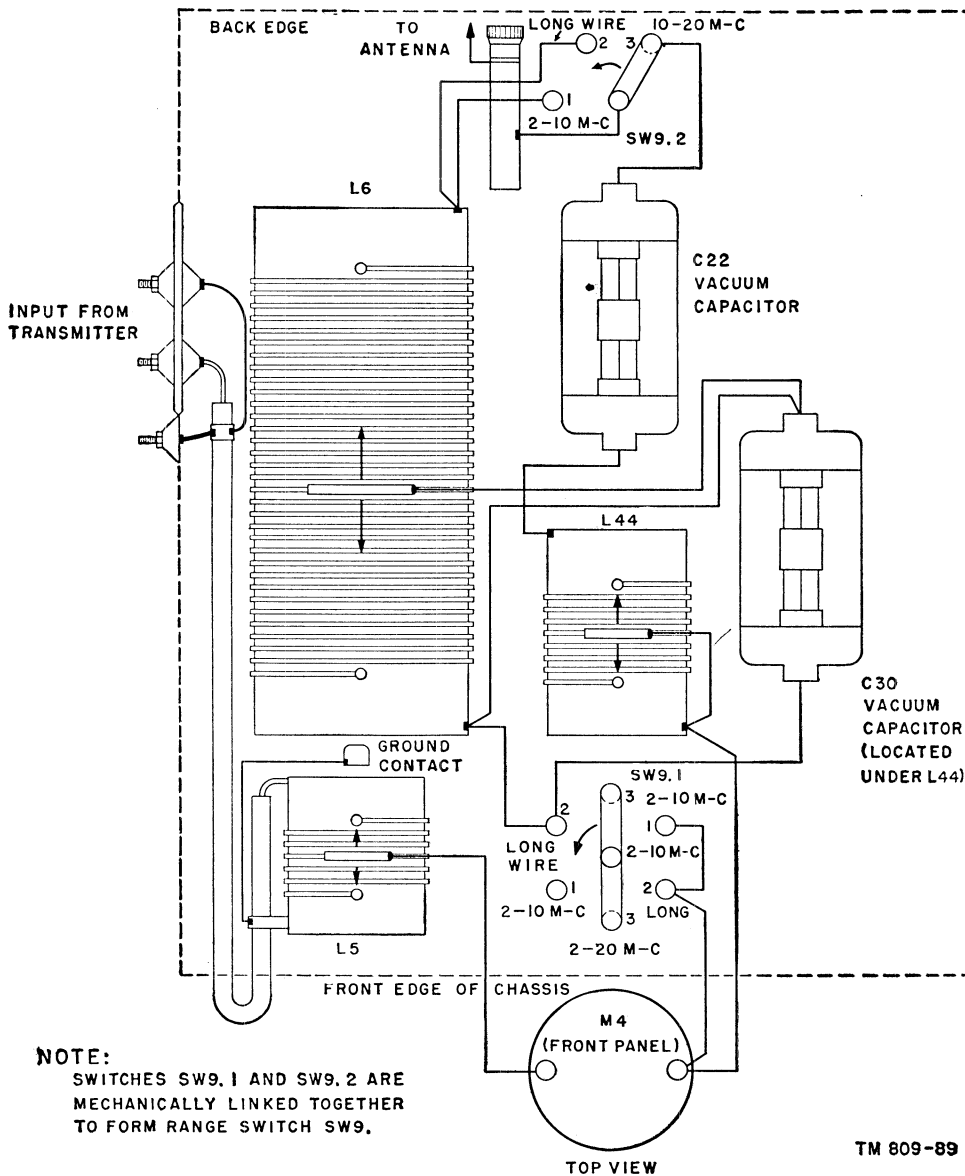

Figure 86. Antenna Tuning Unit BC-939-B, practical wiring diagram.
- (1) If the 1/4-inch diameter metal rod has been removed from the holes through the cams, replace the rod. This positions the cams and the rack at their highest position.
- (2) Reconnect the three wires in the cable harness to the three feedthrough terminals on the bracket at the back of the oscillator subassembly.
- (3) Make sure that the positions of the two couplings correspond to that at the start of the equipment disassembly. As mentioned in the removal procedure for the multiplier subassembly, it should be coupled to the drive mechanism with the BAND SELECTOR at 1.5–3.0 and the mechanical counters indicating 3.000; the cams should be locked with the metal rod as mentioned in (1) above.
89. Servicing Antenna Tuning Unit BC-939-B (figs. 86 and 87)